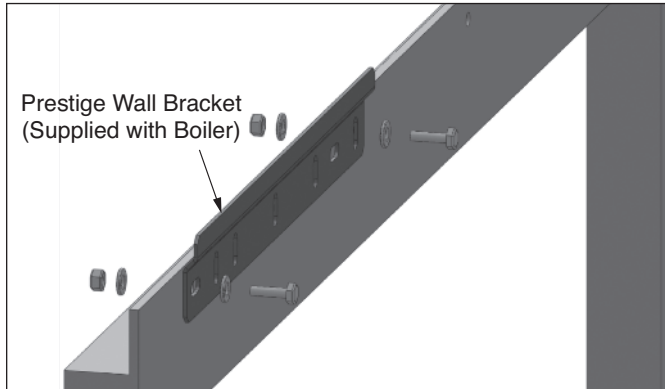

Fig. 24: Prestige Wall Bracket Installations
1. Attach the boiler mounting brackets shipped with the boilers to the top front of the distribution manifold using the hardware supplied, see Figure 24. Ensure brackets are level.